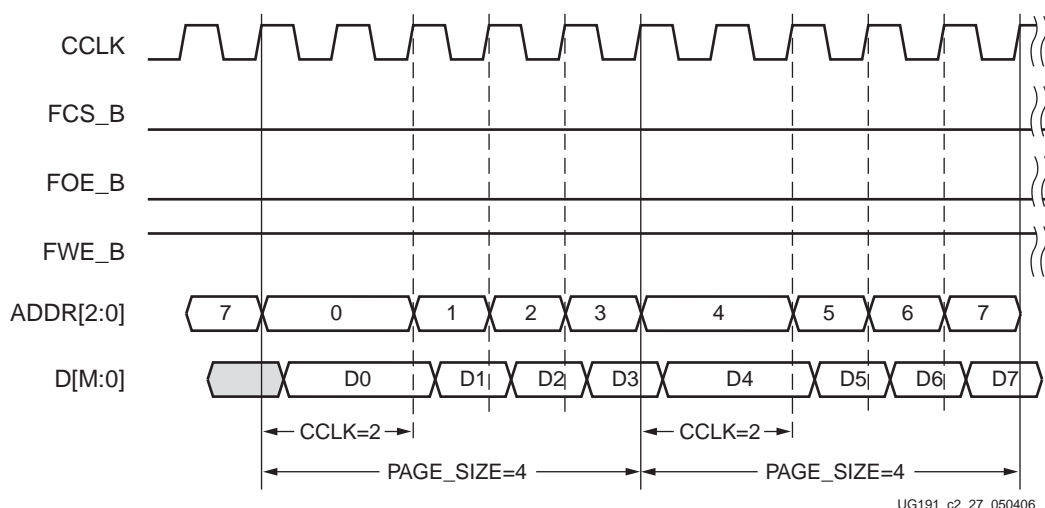

Figure 2-24: BPI-Up Waveforms (Page Size = 4 and First Access CCLK = 2)
the master CCLK is running at slowest default frequency. The COR0 register contains master CCLK frequency control bits (see “Configuration Options Register 0 \(COR0\),” page 120). The COR1 register contains BPI flash page mode control bits (see “Configuration Options Register 1 \(COR1\),” page 122). After the COR1 register is programmed, the BPI address timing switches at the page boundary as shown in Figure 2-24. When the SWITCH command is received, the master CCLK switches to a user-desired frequency, using it to load the rest of the configuration.
Notes related to Figure 2-24:
- Figure 2-24 shows BPI-Up mode, a page size of 4, and a first access CCLK of 2.